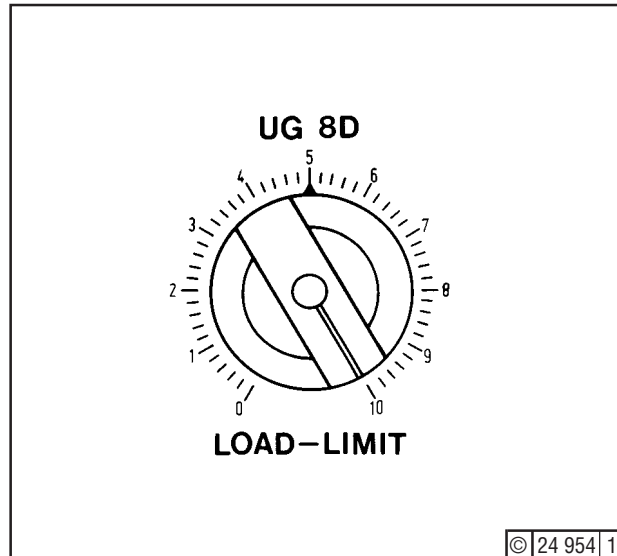

Fig. 12
9. **Governor UG8D (Fig. 12)**